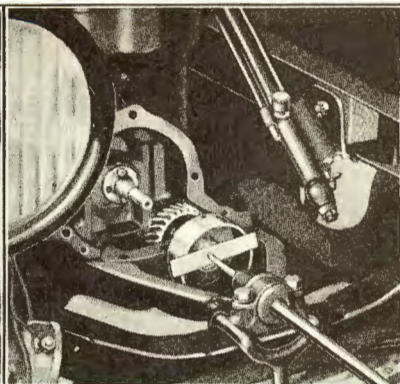
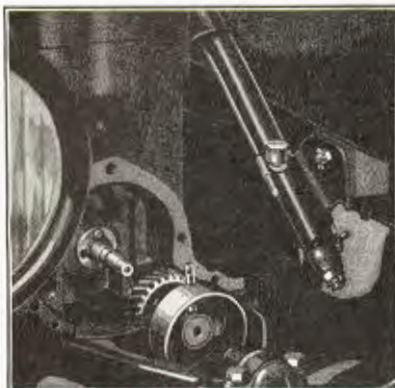

Fig. 277
Fig. 278
- 461** Install fan drive pulley on crankshaft. This is done by placing a flat piece of stock across face of pulley and driving pulley onto crankshaft with a drift which is inserted through starting crank sleeve (See Fig. 277). Pulley is then locked in position on shaft by inserting starting pin, with the cotter pin hole end up (See Fig. 278) through the larger of the two holes in fan drive pulley and driving it through pulley and crankshaft. The pin is then locked in position with a cotter key.